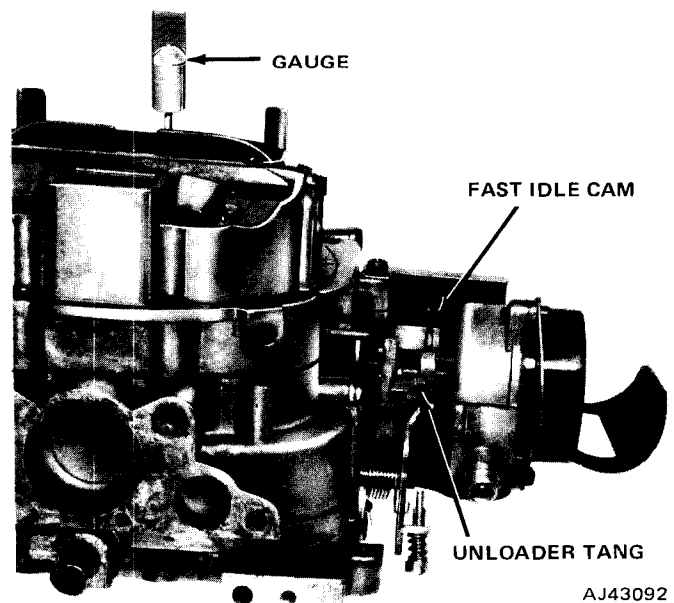
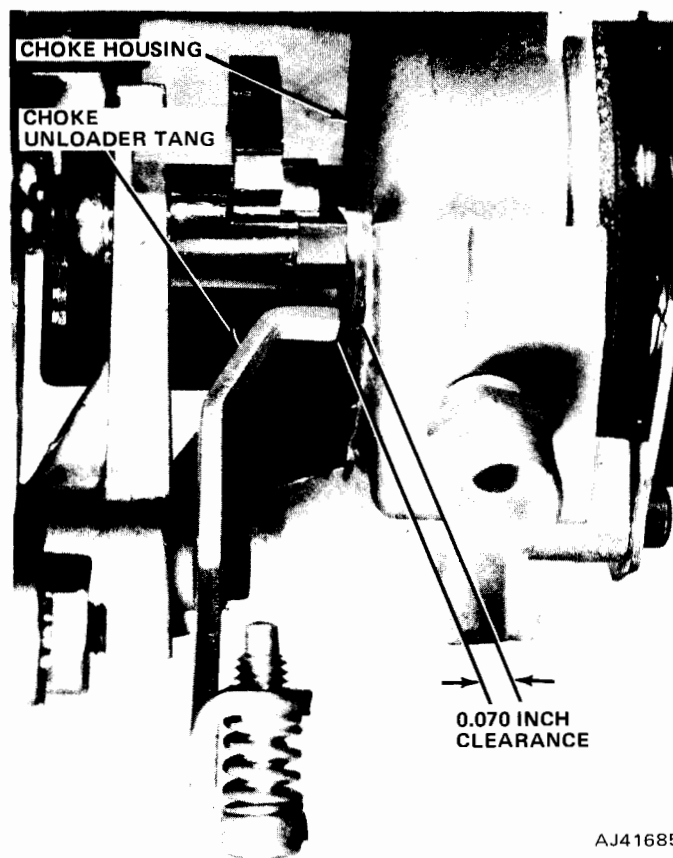

Fig. 4-82 Unloader Adjustment
Fig. 4-83 Unloader-to-Choke Housing Clearance
(3) Adjust by bending the unloader tang which contacts the fast idle cam as shown in figure 4-82. Bend toward the cam to increase the clearance and away from the cam to decrease the clearance. After making the adjustment, make certain the unloader tang has at least 0.070-inch clearance from the choke housing when the throttle is fully open (fig. 4-83).
(4) Operate throttle and check unloader tang to make sure it does not bind, contact, or stick on any part of carburetor casting or linkage. After carburetor installation, check for full throttle opening when the throttle is operated from inside the vehicle. If full throttle opening is not obtainable, it may be necessary to remove excess padding under the floor mat or reposition the throttle cable bracket located on the engine.